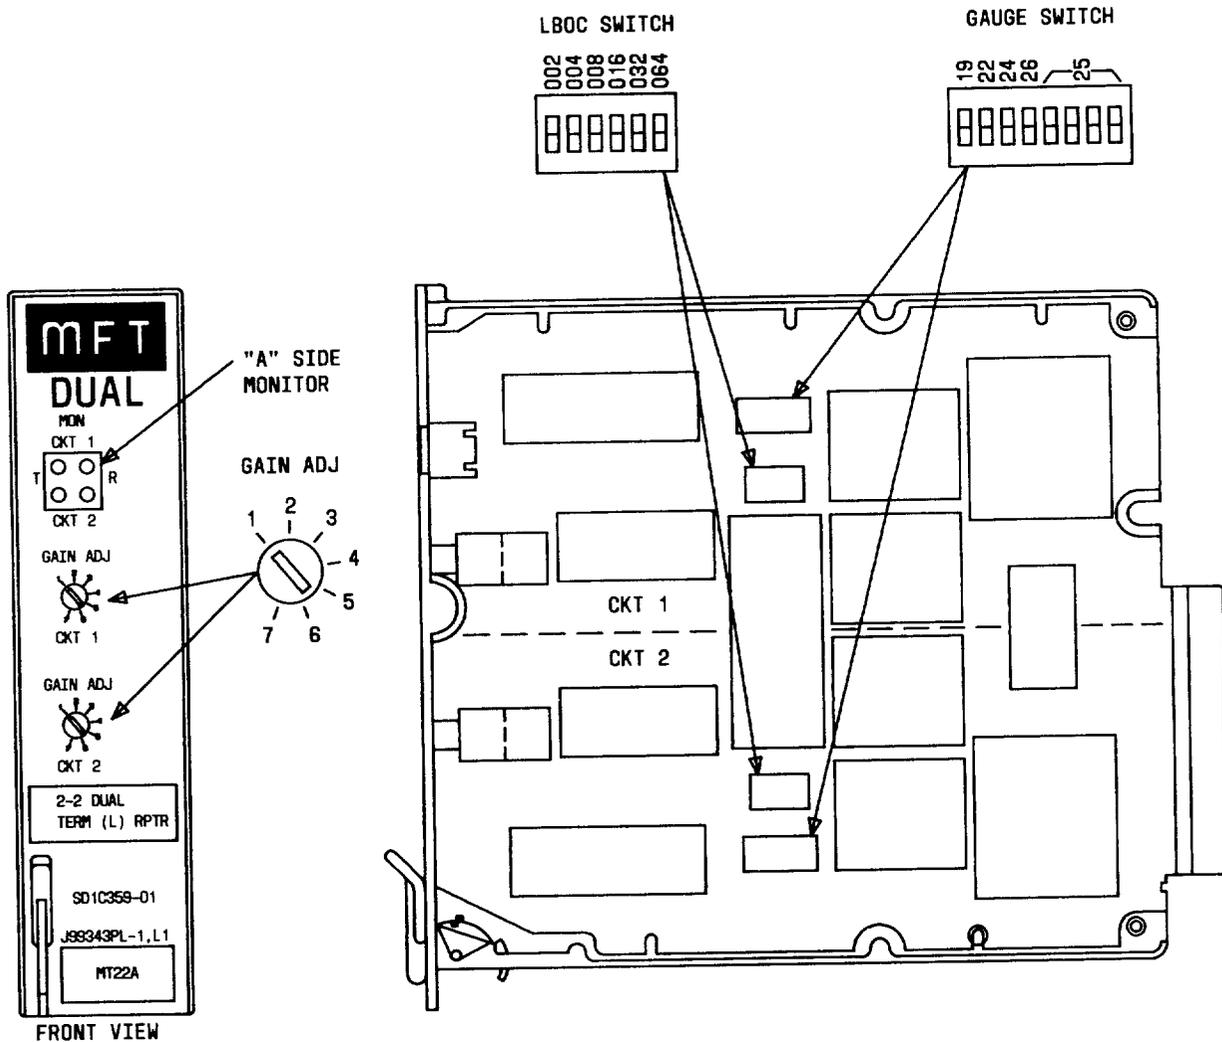

Fig. 1—Component Layout, J99343PL, L1
2.01 The J99343PL, L1 terminal repeater is shown in Fig. 1. Each of the two repeaters contained
2.08 The rocker-type switches for a particular function which are described in the following paragraphs, are operated when depressed toward the respective designation. The sum of the values of the switches operated is the setting for that function. The unit controls are illustrated in Fig. 1.